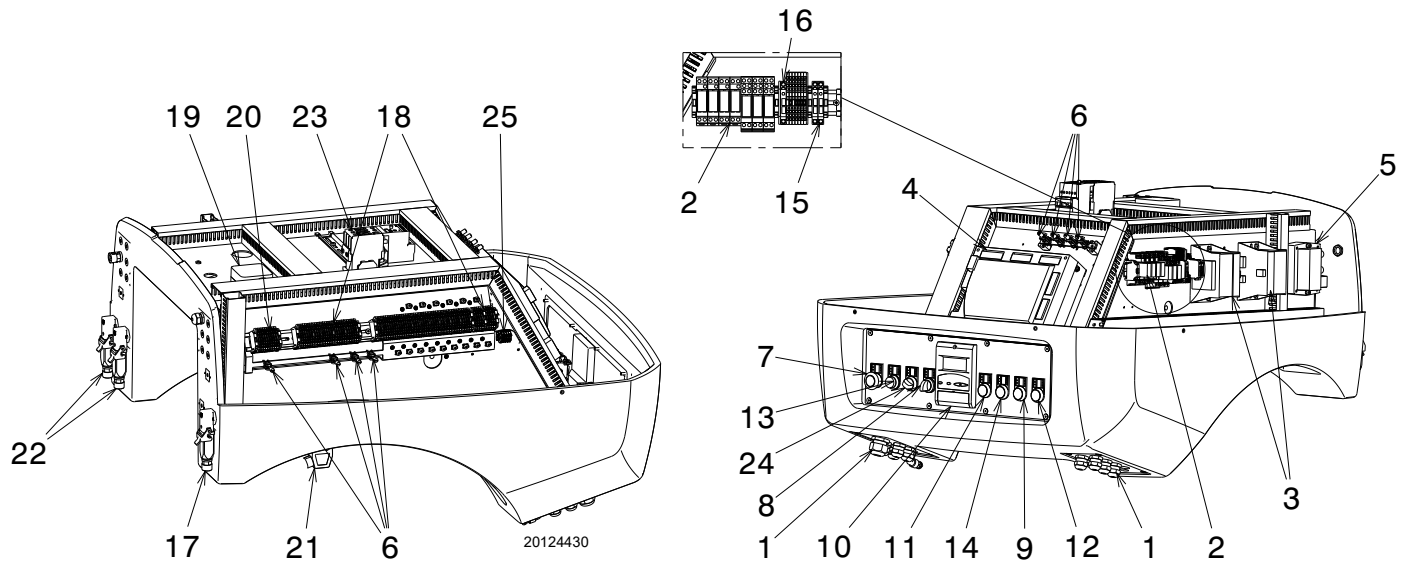

Fig. 5
- **flame control lockout:** the switching on of the button (**red led**) 13)(Fig. 5) signals that the burner is in lockout. Release by pressing button 13)(Fig. 5) or use the display.